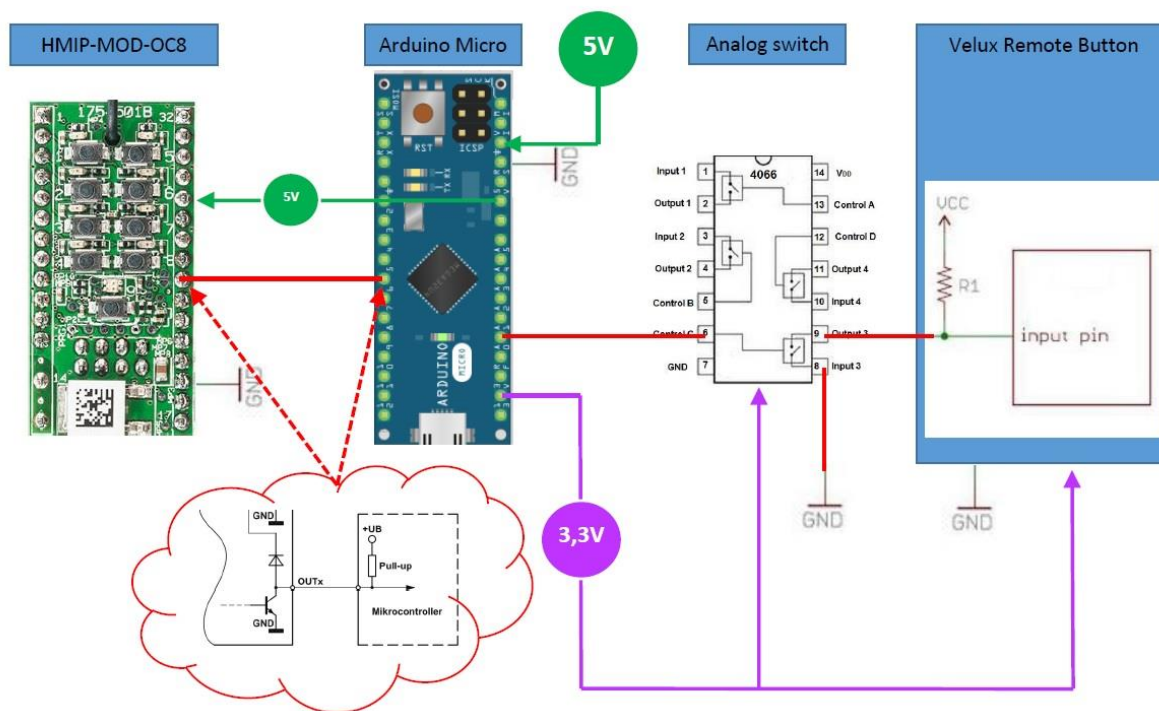

Figure 1
HMIP-OC8-Micro was made for connecting the Homematic (IP) world to the Velux World. Therefore the HMIP-MOD-OC8 was combined with an Arduino Micro to control an analog switch (SN74HC4066 or 4066). The analog switch itself is connected to a Velux remote control and is able to pull down the remote's inputs (buttons). Find the general scheme in figure 1.
The power is provided by an external power supply (5V) to the Arduino Micro. The Arduino Micro has a 3,3V output, which is used to power the HMIP-MOD-OC8, the analog switches (4066) and the Velux remotes. See green and purple lines in figure 1. All devices share the same ground level.